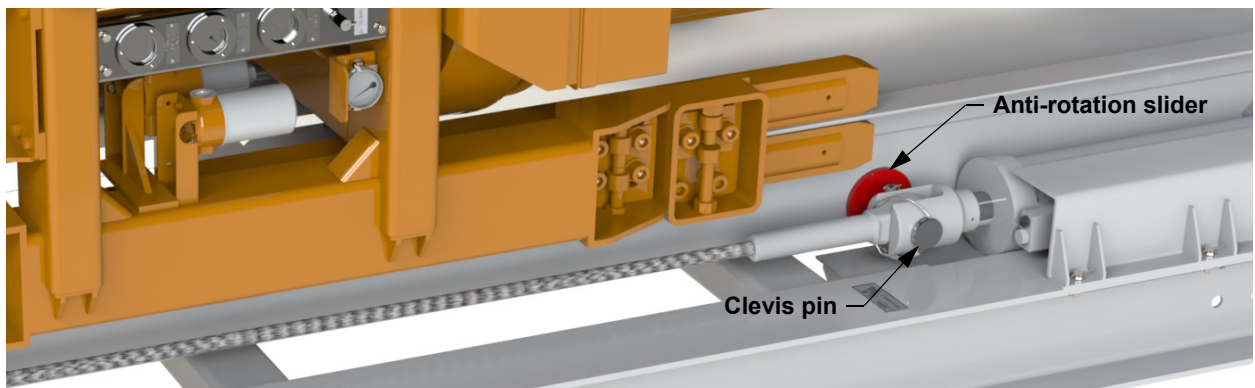

Figure 1: Hydraulic tensioner cylinder
1. Inspect for safety securement of the PTG, including the cylinder clevis pin and anti-rotation slider for securement, as shown in Figure 1.